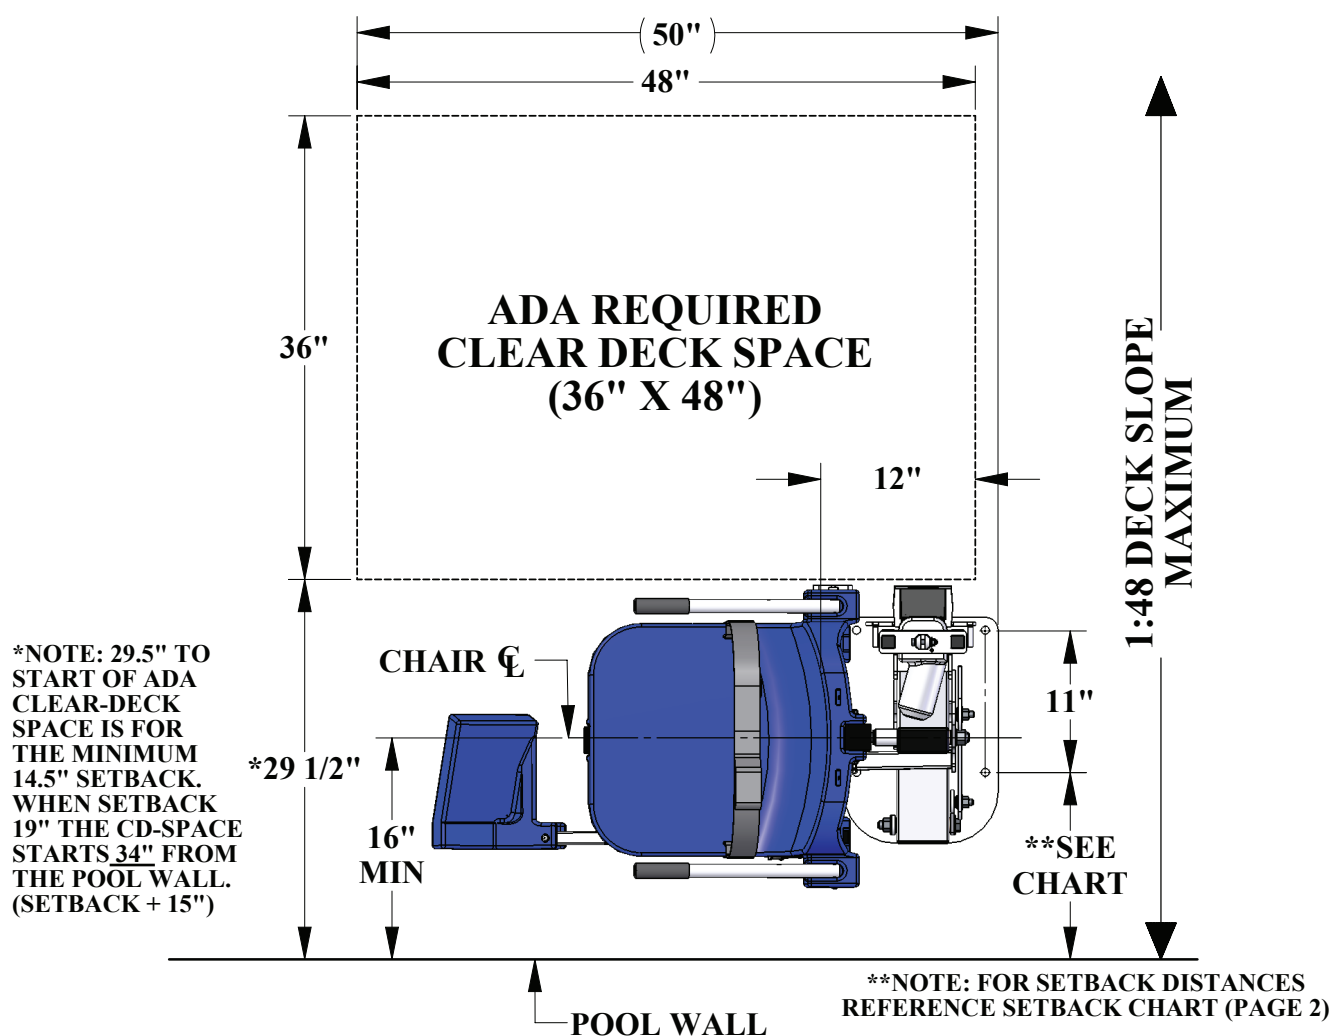

FIGURE 1
- **Clear Deck Space Dimensions (see FIGURE 1)**